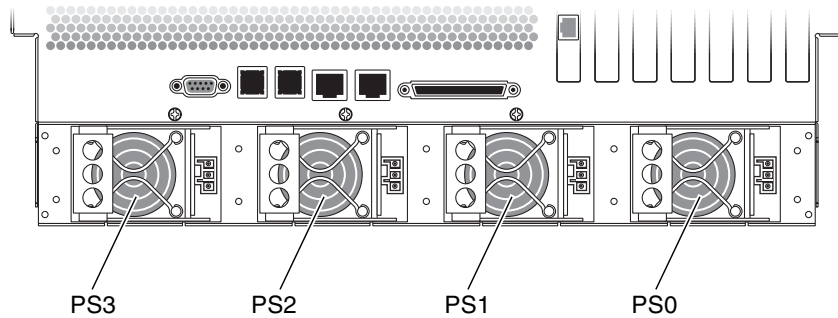

FIGURE 1-16 Power Supply Locations
The Netra 440 server's power supplies are hot-swappable units. They are designed for fast, easy installation or removal by qualified service personnel, even while the system is fully operational. Power supplies (PS) are installed in bays at the rear of the system, as shown in FIGURE 1-16.